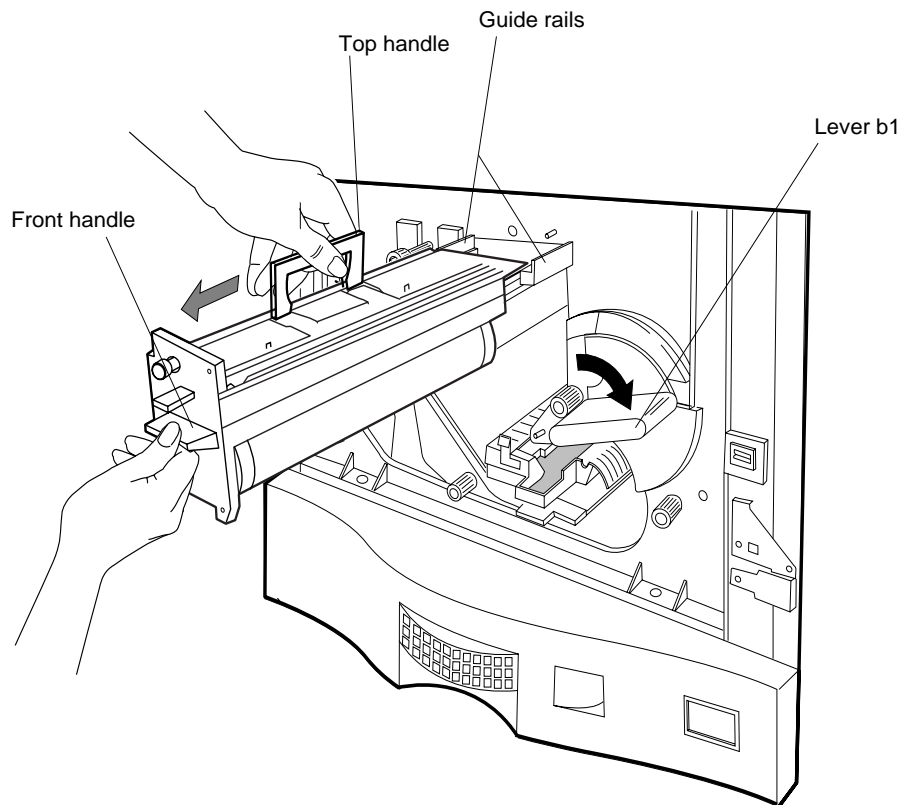

Figure 4-26 Removing the Drum
2. Rotate Lever b1 clockwise, as shown in Figure 4-26.
3. Use the drum handles on the top and front to pull it out, as shown in Figure 4-26.